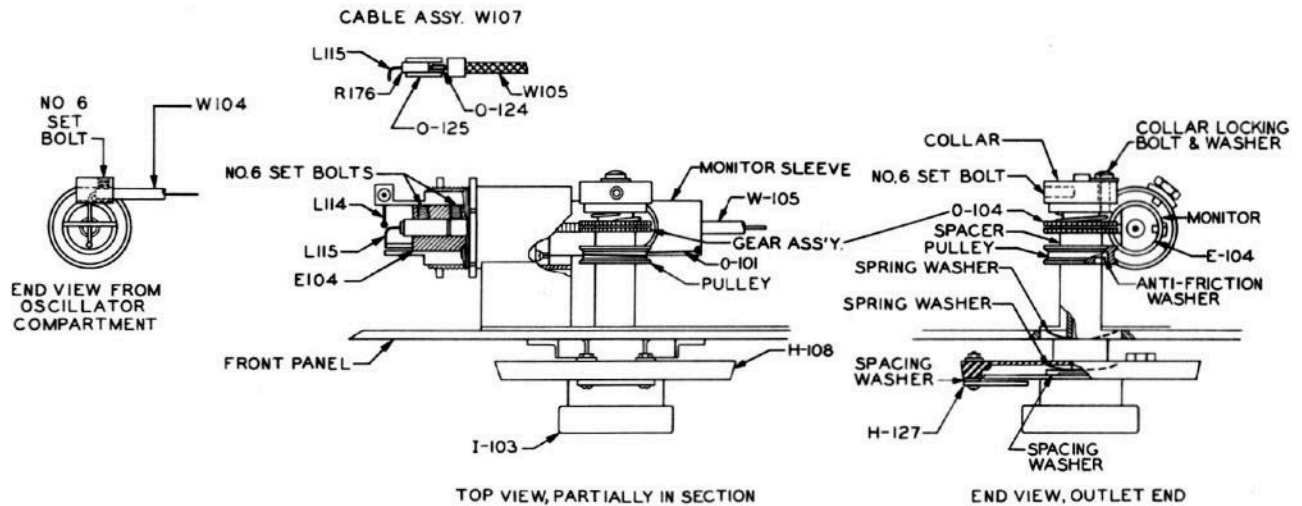

Figure 7-13. RF Signal Generator SG-45A/URM-26, RF Attenuator
(5) Loosen two set screws holding MICRO-VOLTS dial.
(6) Slide plunger out of attenuator.
(7) Loosen two set screws in plunger (see figure 7-13).
(8) Unsolder loop L-115 (outer end of resistor R-176) from the pin which is a permanent part of the plunger.
(9) Remove resistor and cable by pushing them through the loop end of plunger.
(10) If either resistor R-176 or cable W-105 is defective, install a new cable assembly W-107 (comprising both R-176 and W-105 together with splicing sleeve and insulating sleeve).
(11) Insert cable assembly W-107 into plunger by pushing cable through plunger from loop end.
(12) Solder pre-formed end of resistor R-176 to end of grounding pin in plunger.
(13) Tighten two set screws to secure resistor R-176 and cable assembly W-105 (see figure 7-13).
(14) Replace plunger in attenuator tube until gear rack on plunger almost engages drive gear.
(15) Wind spring-loaded gear about five teeth and slide plunger gear rack into engagement.
(16) Rotate OUTPUT index control clockwise to stop and hold in that position.
(17) Move plunger to bring output loop L-115 into exact alignment with monitor loop L-114.
(18) Grasp gears and pulley to hold loops in alignment.
(19) Rotate MICROVOLTS dial to its extreme clockwise position and press dial toward panel to provide clearance between dial and index plate. Tighten two set screws in MICROVOLTS dial knob.